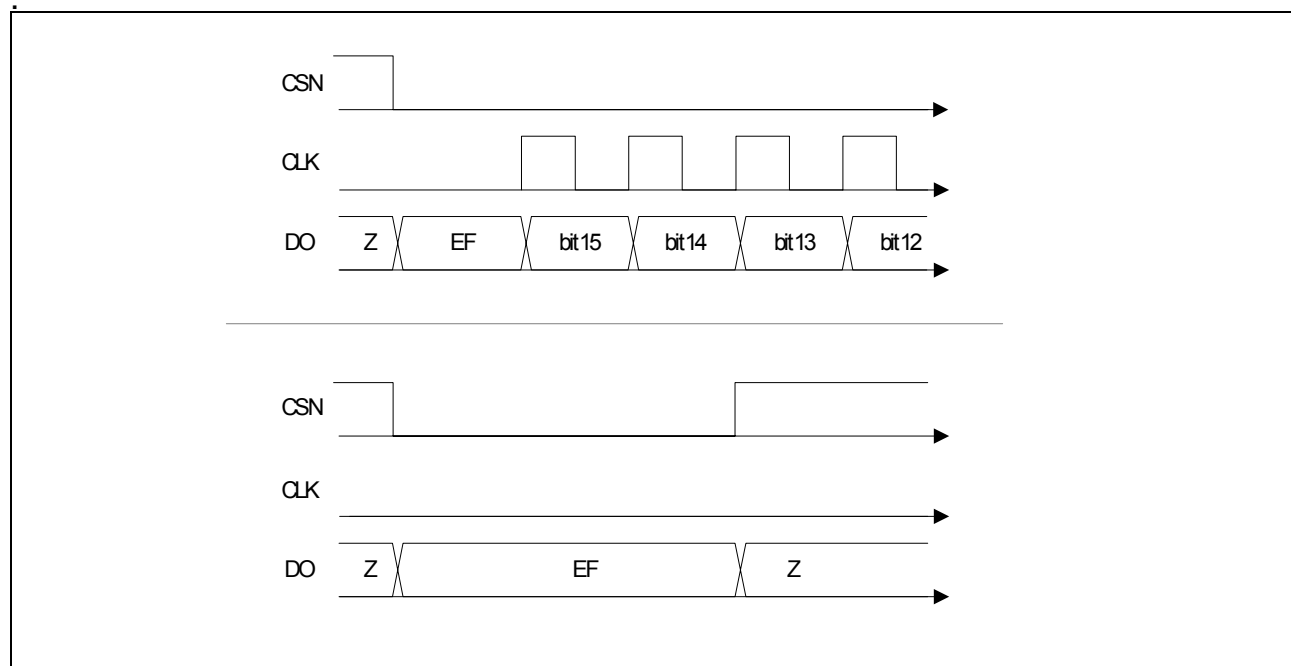

Figure 6 Error Flag transmission on DO during standard SPI transmission (top), or without additional SPI transmission, CLK low (bottom)
In addition to the 16 bits transferred from the TLE 7201R to the SPI master, an additional Error Flag (EF) is transmitted at the DO pin. The EF status is shown on the DO pin after CSN H->L, before the first rising edge at CLK, as shown in Figure 6.